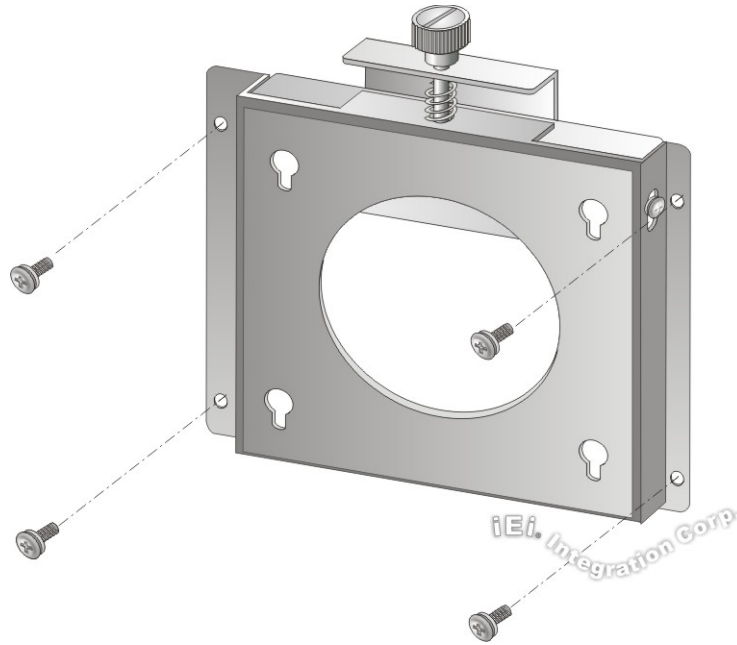

Figure 3-12: Wall-mounting Bracket
Step 5: Secure the mounting-bracket to the wall by inserting the retention screws into the four pilot holes and tightening them (**Figure 3-12**).